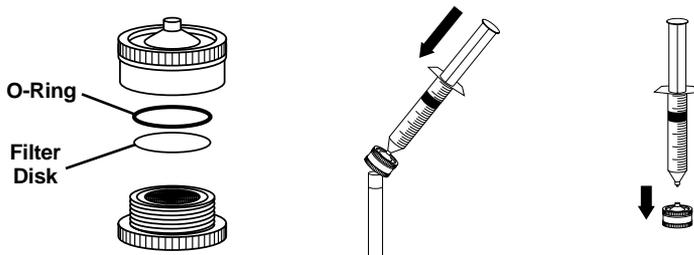

Figure 2 Optional Apparatus
1. Remove the case top from the Pocket Pal. **Caution: Do not over extend the attached wires (See Figure 2).**
Note: If the sample is turbid, it may be necessary to filter the sample as described in Steps a and b to accurately determine a color match in the comparator. Figure 2 illustrates how to assemble the filter assembly components. If filtering is not needed, proceed to Step 2.